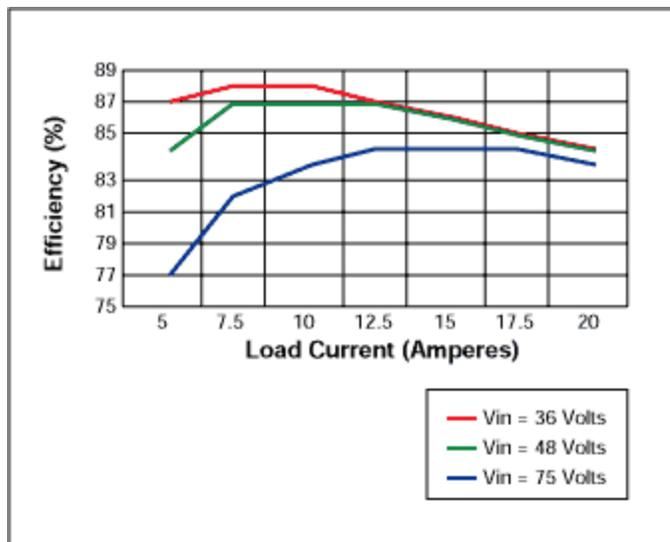

Figure 3. Converter efficiency vs load current.
1. Converter Efficiency (**Figure 3**)